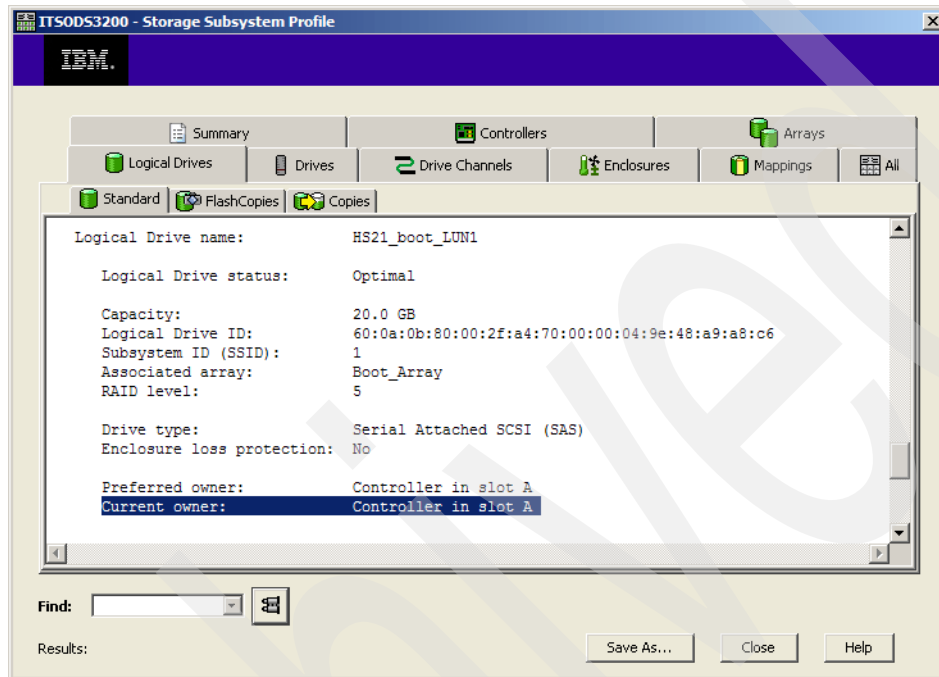

Figure 20-48 Boot volume owner - Controller A
1. Verify the current owner of the boot volume (in our example, Controller A) by viewing the logical drives section under the Subsystem Profile in the DS3200 Storage Subsystem Manager, as shown in Figure 20-48. Select **Storage Manager** → **Subsystem Profile** → **Logical Drives**.